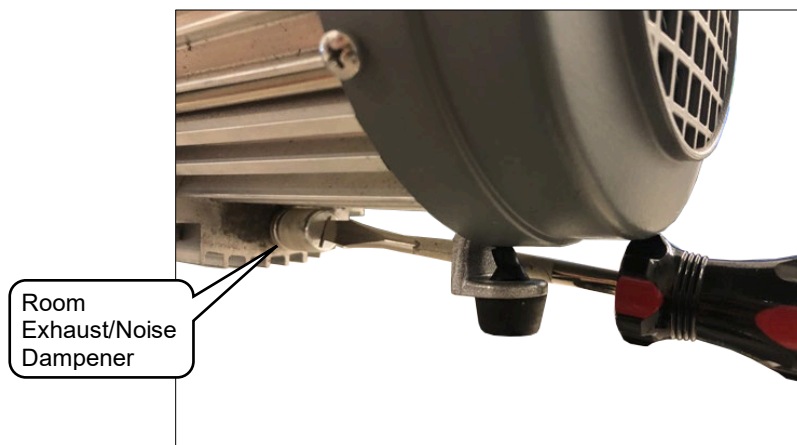

Figure 72: Pump Exhaust/Noise Dampener Removal
3. Using a flat head screwdriver, remove the analyzer pump room exhaust/noise dampener from the bottom of the pump (Figure 72). Note that due to close the proximity of the pump foot, it may be difficult to remove the dampener using the screwdriver. As an alternative, use adjustable locking type pliers to remove the dampener.